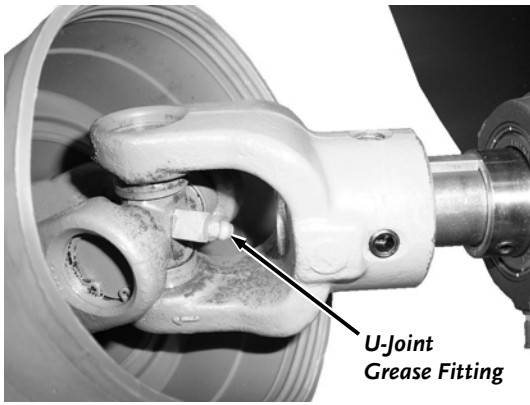

Figure 38
2. Apply no more than three pumps of quality general-purpose lithium grease with a hand-pumped grease gun to each of the two U-Joint Grease Fittings (Figure 38).